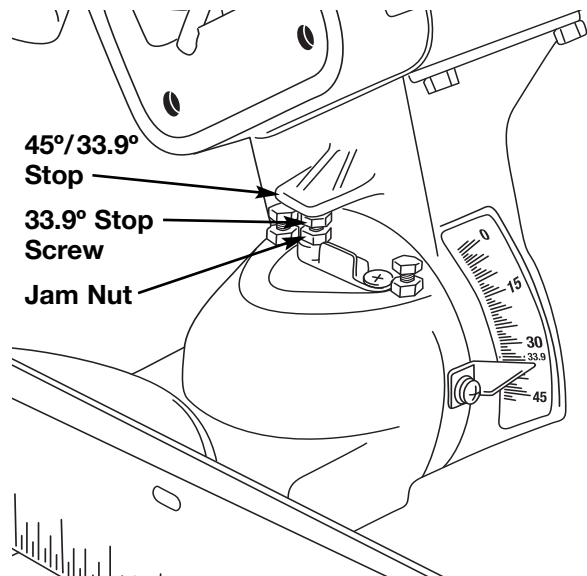

Figure 12. Bevel 33.9° Stop Screw and Jam Nut
1. Lower the 33.9° bevel stop screw jam nut using 12mm or adjustable wrench (Figure 12).
4. Adjust the 33.9° bevel stop until bevel indicator is pointing to the 33.9° mark on the bevel scale (see Figure 12). Tighten 33.9° jam nut.